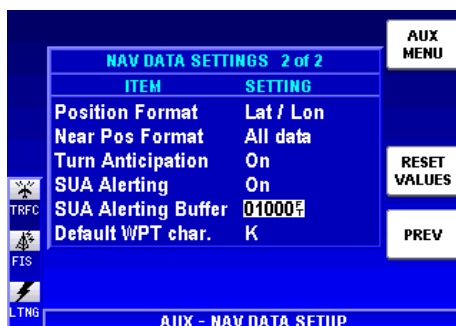

Figure 1-48
7. When **On** is selected the **SUA Alerting Buffer** will be editable. Use the Joystick to place the cursor over this field (see Figure 1-48) and use the Rotary Knob to select the desired altitude. An Airspace Alert message will be given when the aircraft enters within this selected buffer altitude from the published SUA altitude boundary. For example: if the published upper SUA boundary is 3,000 feet and a buffer altitude of 1,000 feet is selected, the Airspace Alert will be issued when the aircraft descends to 4,000 feet and is within the lateral SUA boundaries.